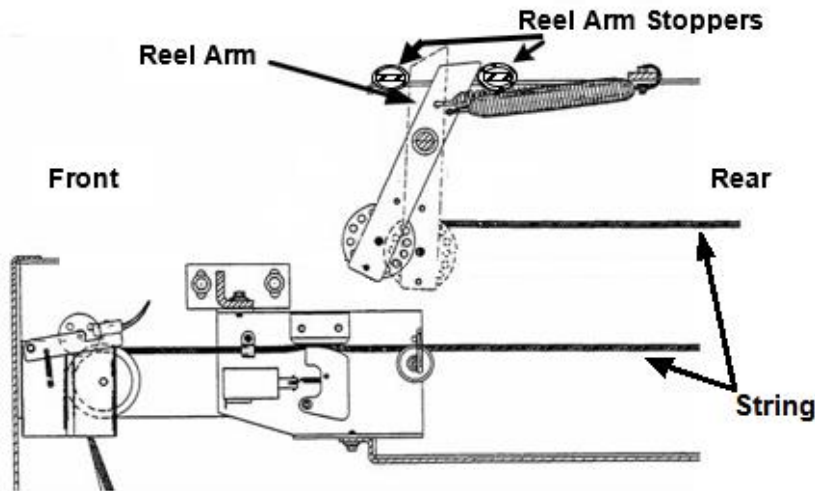

Figure 2-2, Reel Arm Position
4. Adjust the strings with the take-up reels (pull the reel out from the reel arm and rotate) so that the pins just touch the stabilizing rings on the underside of the lower table, and so that the top of the reel arms are still touching the rear reel arm stopper (see Figure 2-2).